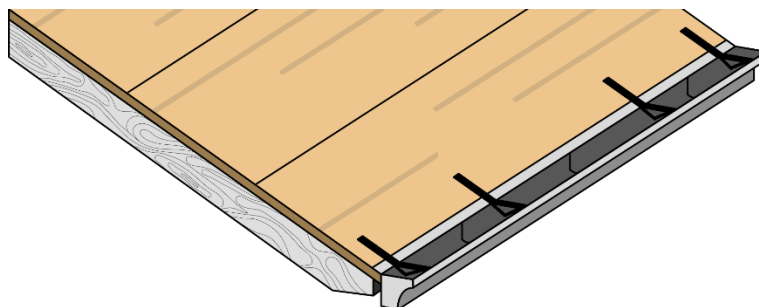

Fig. 2 - Gutter installation
- Before installing the bituminous shingles, install the gutters or the drips and fix them properly to the substrate through tie-rods - Fig. 2.